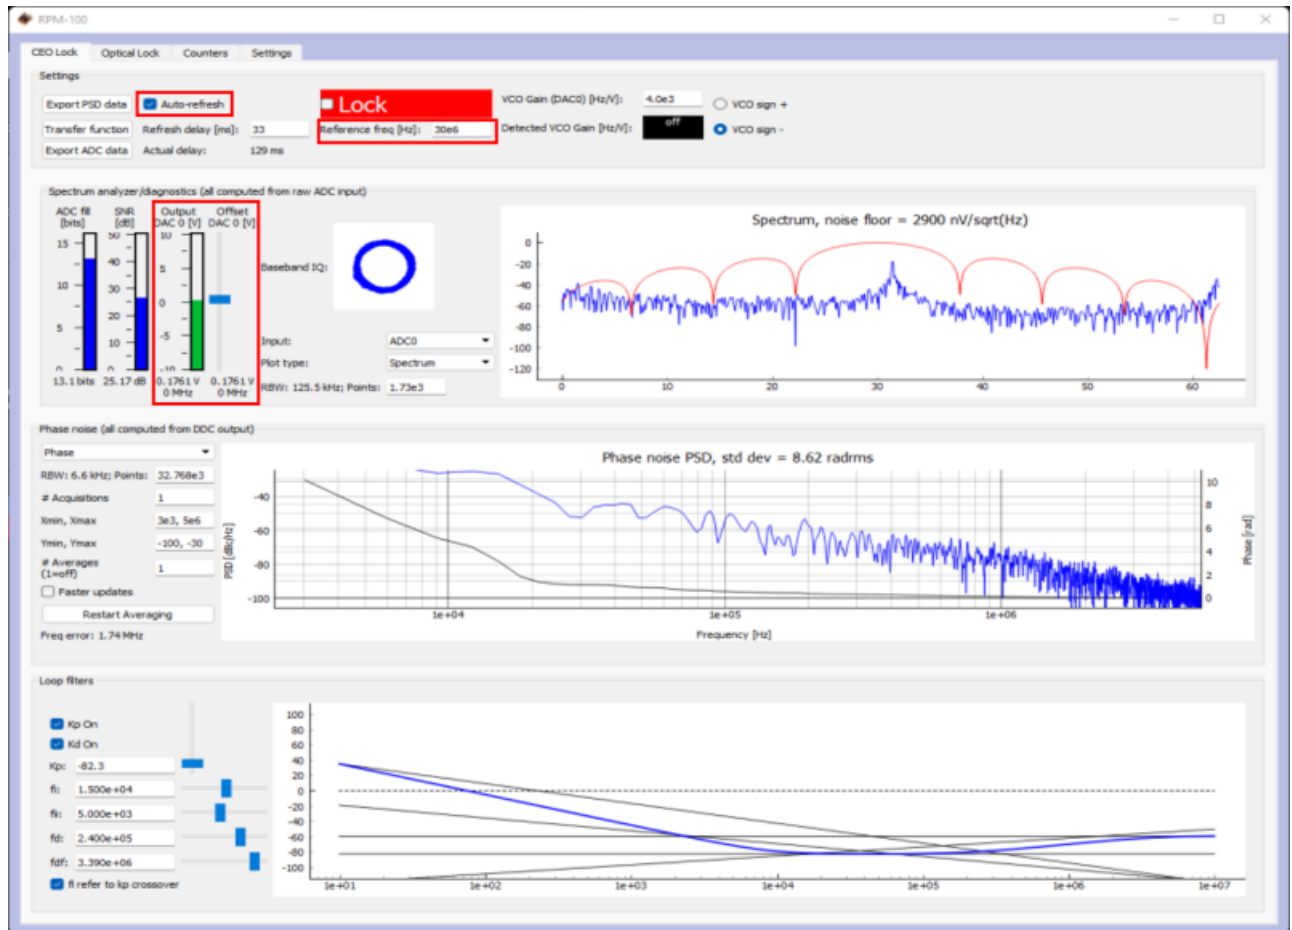

Fig. 9: Centering $f(\text{CEO})$ on reference frequency (Baseband IQ optimization)
1. Navigate to the “CEO Lock” tab and enable the “Auto-refresh” button in the top left of the window. Set your desired RF lock frequency of the F_{ceo} beatnote in the “Reference Frequency [Hz]” input. Adjust the “Offset DAC 0” slider near the top left by clicking and dragging the slider until the Beatnote is roughly centered in the red filter trace (figure 9). It is also possible to adjust the FFC-100 oscillator current on its front panel to make this adjustment.